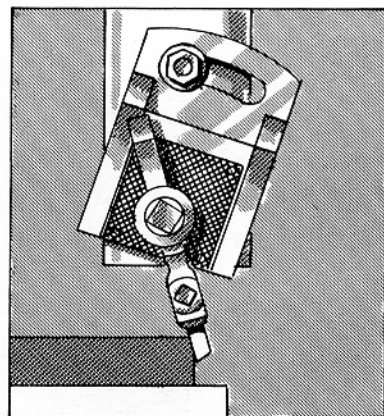

FIG. 400
**NOTE:** If the angular surface forms a slight angle with the vertical, a side-cutting tool may be used (Fig. 400). For example, if the surface makes a  $15^\circ$  angle with the vertical position, the head would be moved through  $75^\circ$  in order to feed the tool perpendicular to the angular surface (Fig. 399). The head is graduated through only  $60^\circ$  for each side of the vertical position. Therefore, the following set-up is more convenient:
1. Set the tool head in the vertical position (Fig. 400).
2. Set the clapper box over to the right (Fig. 400).
5. Hold the tool short and tighten it securely in the tool holder (Fig. 400).